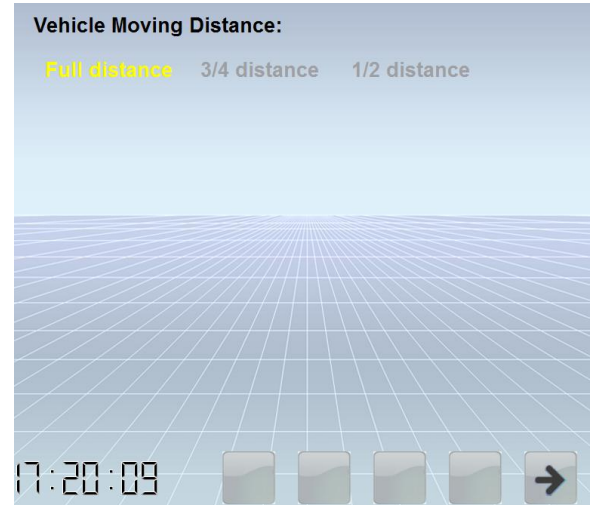

Figure 5.3-1
5.3 TID Calibration guidance(The installation is completed before go out of the factory, if need, please operate under the guidance as below, or call the manufacturer)(Figure 5.3-1)